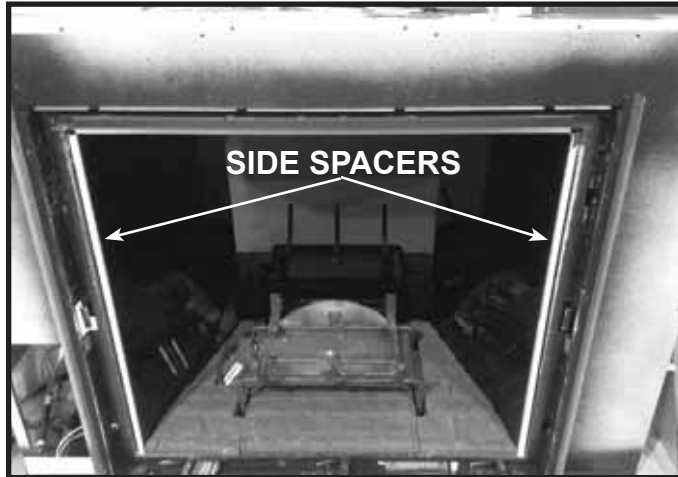

Figure 18. Refractory Spacers
17. The finish strip will be installed over visible spacers that can be seen in Figure 18.